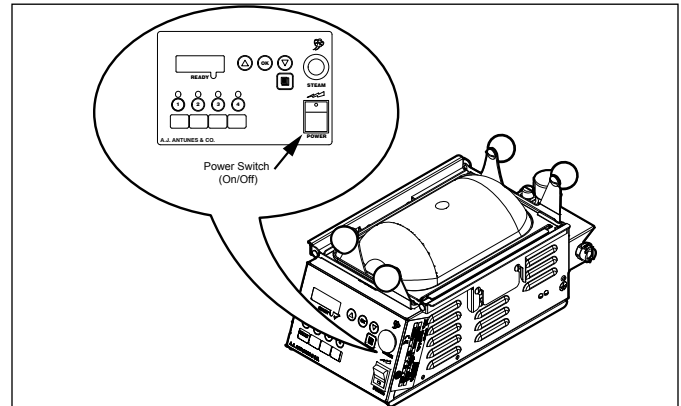

Figure 5. Control Panel and Power Switch
1. Press and hold the **PROGRAM** button until “CYC” appears on the display (Figure 5) then release the **Program** button.
NOTE: To save Programming changes, be sure to press the **PROGRAM** button (Figure 5) as soon as changes are made.